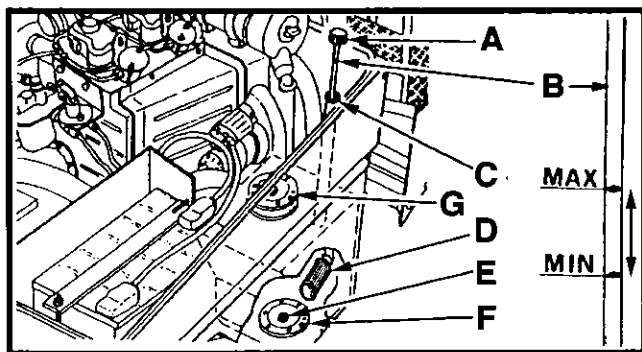

Figure 5-26 Hydraulic Tank
## III. Clean Hydraulic Oil Return Strainer (G, Figure 5-26)
1. Place a container capable of holding at least 22 gallons (84 liters) under the drain plug (E, Figure 5-26).
2. Remove the drain plug ('E', Figure 5-26), and drain the hydraulic tank. Dispose of oil in accordance with local regulations.
3. Remove the cover plate ('F', Figure 5-26) located in the base of the hydraulic tank.
4. The Vibration/Steering System return strainer ('G', Figure 5-26), is located on the upper surface of the tank. Remove the filter cover to clean the inside strainer gauze..